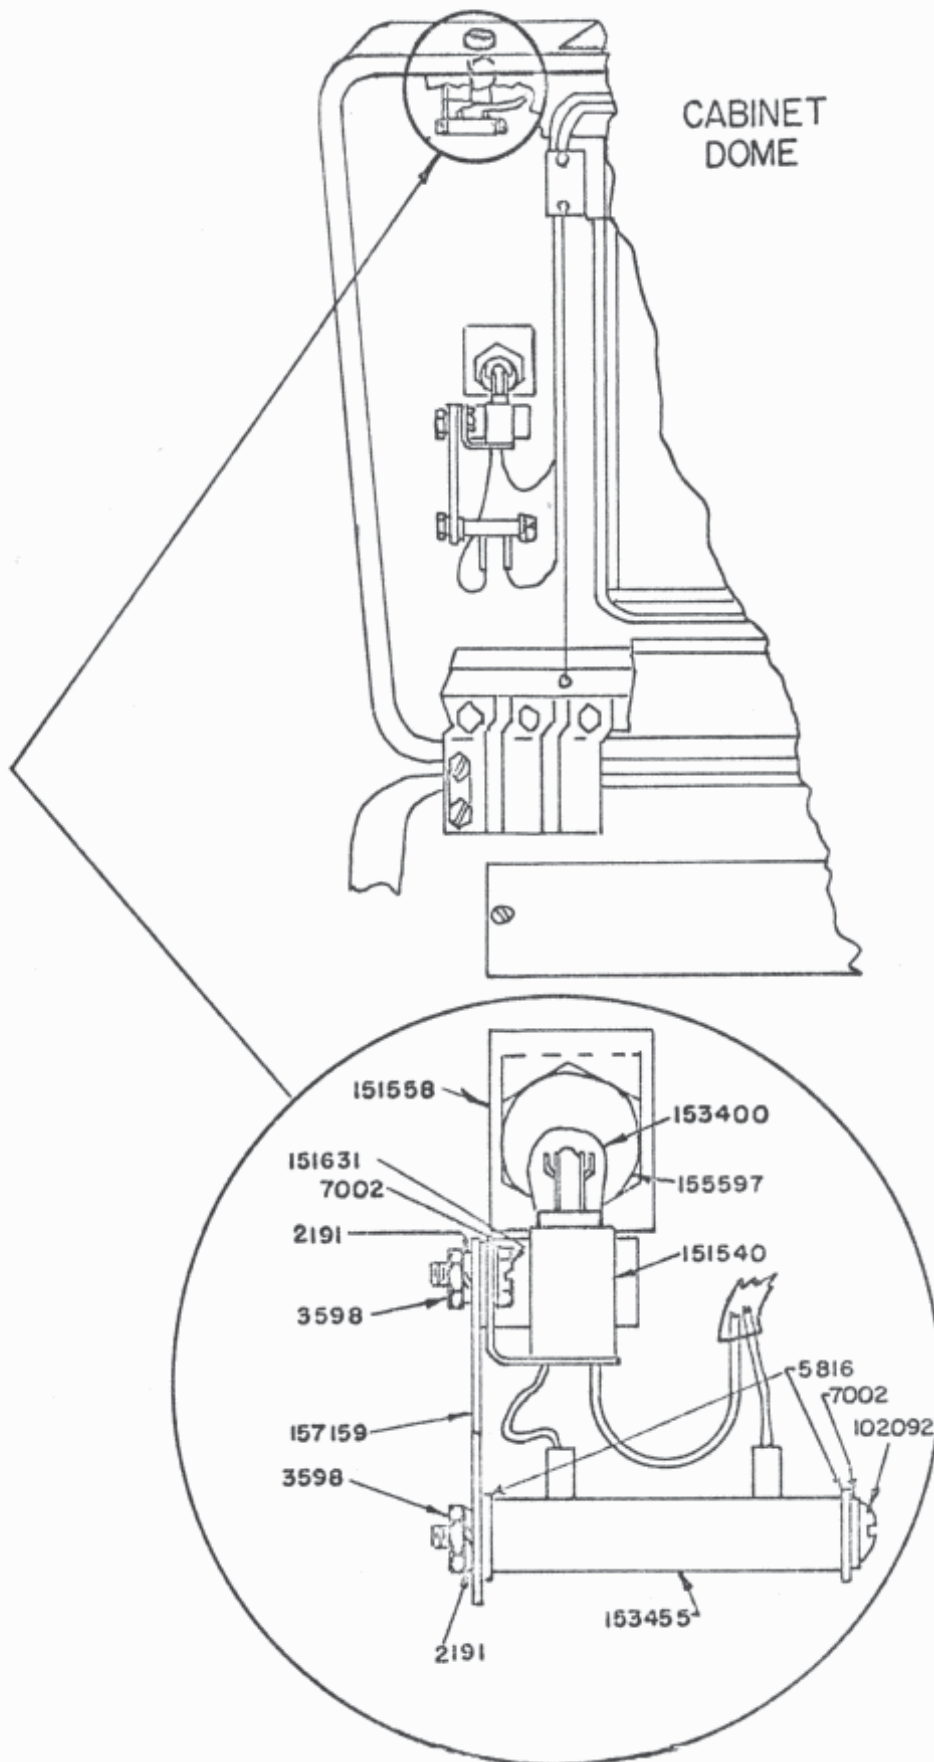

FIGURE 2.
o. Mount the 153455 Resistor (part of 193648 Cable Assembly) to the 157159 Plate using the 102092 Screw, two 5816 Insulating Washers, a 7002 Washer, a 2191 Lock Washer and a 3598 Nut. See Figure 2.
p. Mount the 157159 Plate and lamp socket (part of 193648 Cable Assembly) to the left forward cabinet lamp socket bracket, using the 151631 Screw, 7002 Washer, 2191 Lock Washer and 3598 Nut (see Figure 2). The holes in the 157159 Plate are not centered; mount the plate so that the distance from the holes to the dome is maximum.